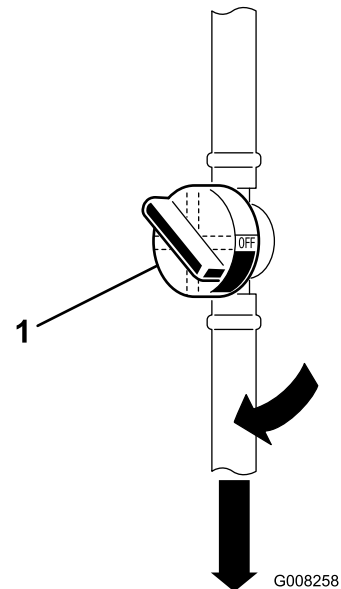

Figure 9
1. Open the fuel shut-off valve located between the fuel tank and the engine (Figure 9).